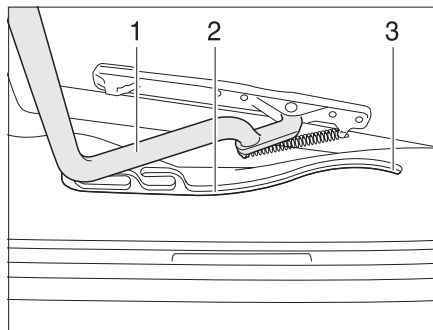

Fig. 56 Heki skylight, guide
- Pull the bar (Fig. 56,1) in the guides (Fig. 56,2) to the rearmost position (Fig. 56,3).
- Use both hands to push the bar (Fig. 56,1) slightly upwards.
- Pull the bar in the guides (Fig. 56,2) to the desired position.